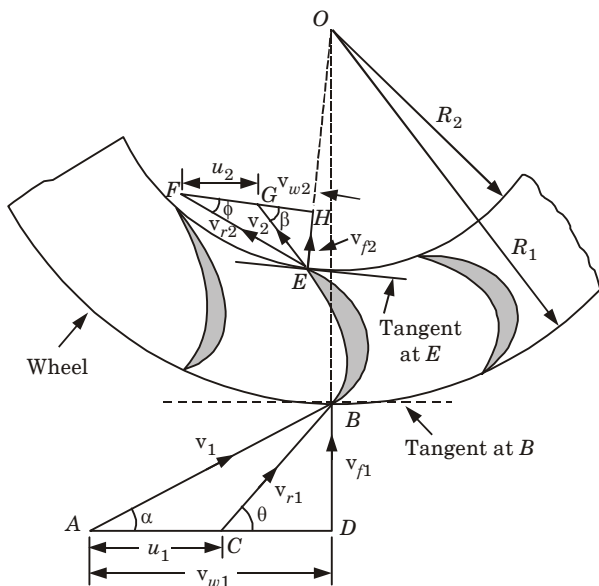

Fig. 4.22.1. Series of radial curved vanes mounted on a wheel.
- Consider a series of radial curved vanes mounted on a wheel as shown in Fig. 4.22.1. Jet of water strikes the vanes and wheel starts rotating at constant angular speed.